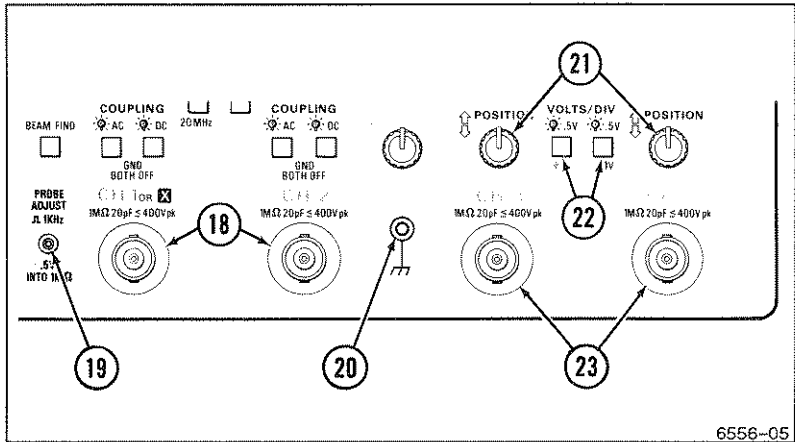

Figure 2-3. Vertical connectors and CH 3 and CH 4 controls.
Refer to Figure 2-3 for location of items 18 through 23
- ⑱ CH 1 OR X and CH 2 Input Connectors—Connect signals to the inputs of Channel 1 and Channel 2 vertical attenuators.